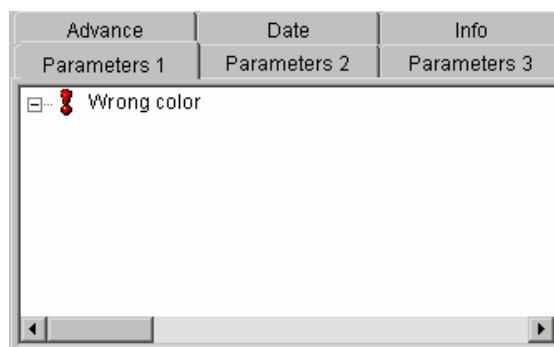

Fig. 3.5.2.2.
- If validation of a bottle is unsuccessful, the red lamp **ERROR** flickers. On clicking the **Retrieve** button in the control program window, the user can view the **Status** tab sheet and identify the cause of the error, see Fig. 3.5.2.2..